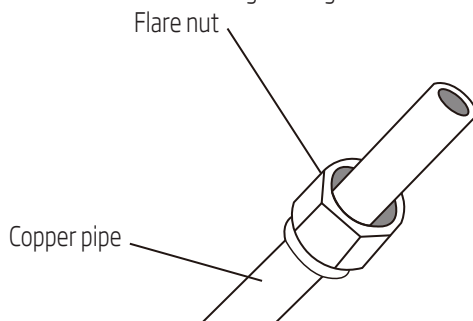

Fig. 7.3
- Place flare nuts on both ends of pipe. Make sure they are facing in the right direction, because you can't put them on or change their direction after flaring. See Fig. 7.3.